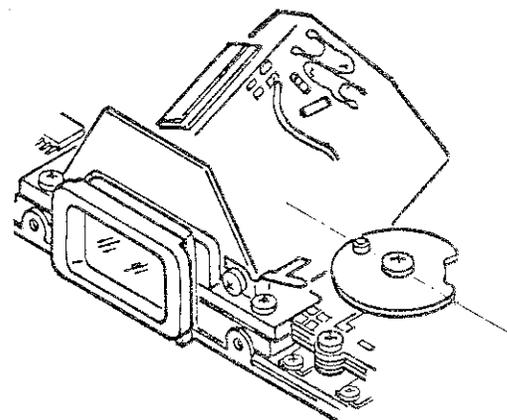

Fig.7
(Fig. 7)
- a. Set the selector to Auto (Fig. 7)